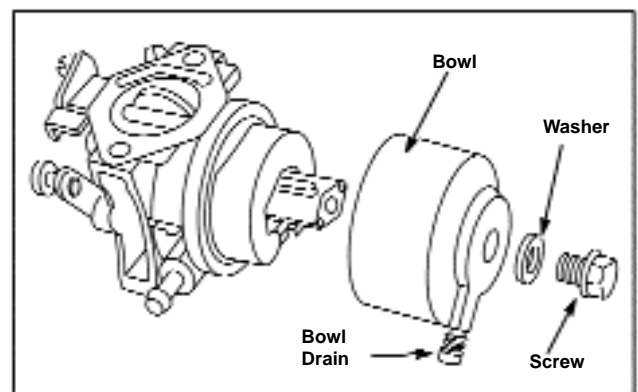

**Figure 34 - Installing Carburetor Nozzle and Main Jet, High Altitude Compensation**
3. Install nozzle and then main jet, See Figure 34.